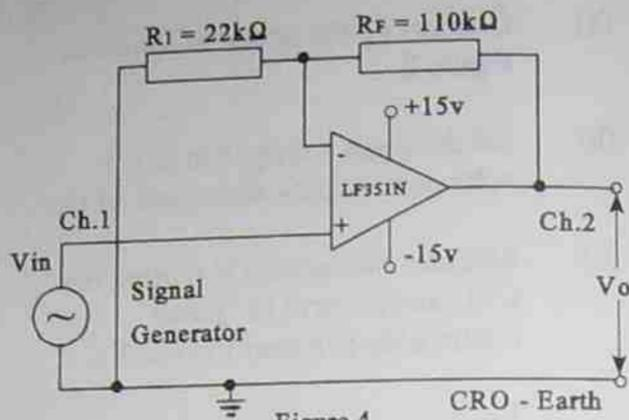

Figure 4
- (a) Connect up the circuit as shown in Figure 4.